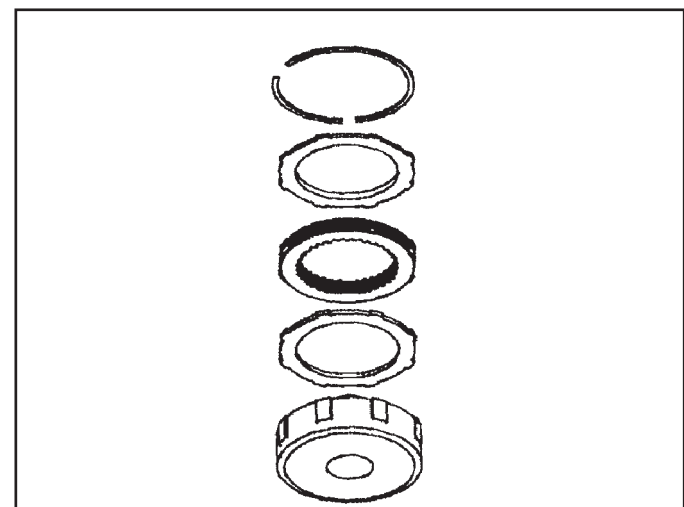

Figure 110
2. Install the apply plate into the clutch housing with the fiber side facing up. Install all clutch plates starting with an internally splined plate first, alternate plates with the fiber side facing up (See Figure 110).
3. Install the clutch backing plate and selective retaining snap ring (See Figure 110).